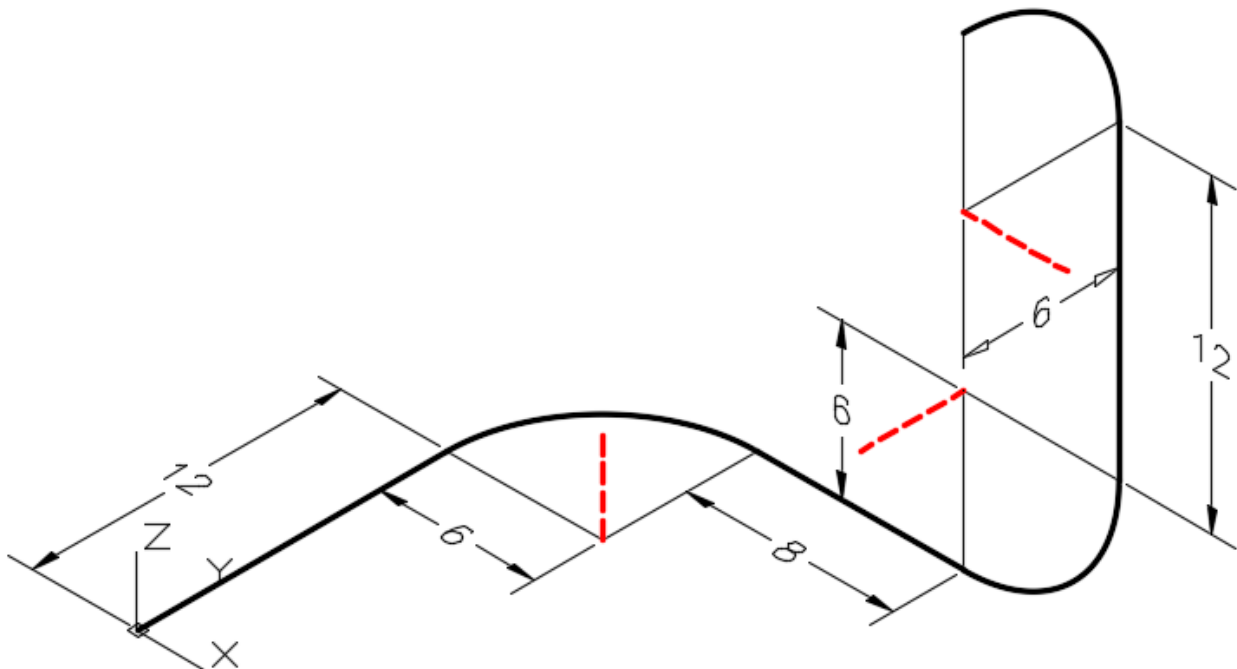

Figure Step 4A
Step 4 Set layer: Construction as the current layer. Draw the model shown in the dimensioned model. These are the construction lines and arcs to be used to construct the model. When complete, your model will appear as shown in the figure. The length of the lines that appear dashed in the dimensioned model are not important since they are axis lines only. They are always drawn in the Z direction of the current UCS. They can be drawn any length as continuous linetype. (Figure Step 4A, 4B, and 4C)